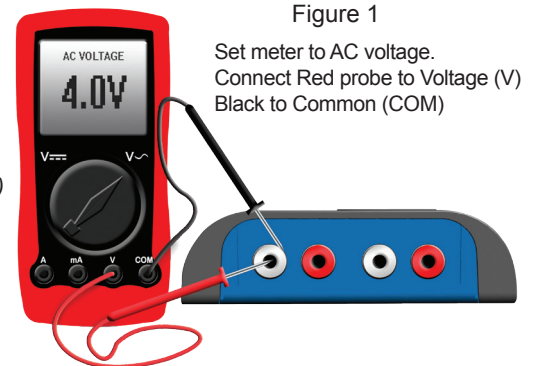

Figure 1
3. Choose either left or right channel - With multi-meter, test output of LP5-4 front channels. Probe with negative on RCA shield and positive in center of RCA output. (figure 1)